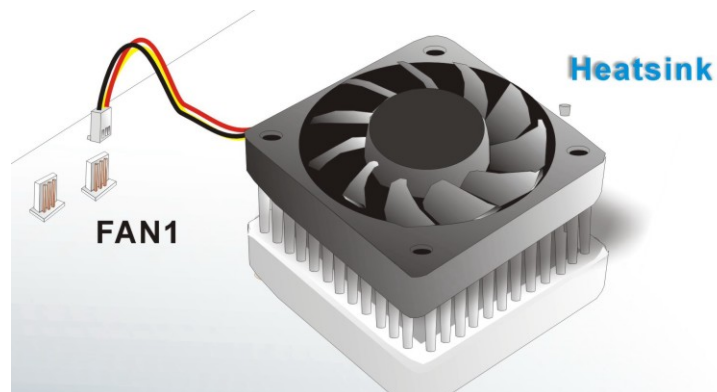

Figure 5-4: Connect the cooling fan cable
Step 12: Connect the fan cable. Connect the cooling kit fan cable to the fan connector on the motherboard. Carefully route the cable and avoid heat generating chips and fan blades. See **Figure 5-4**.